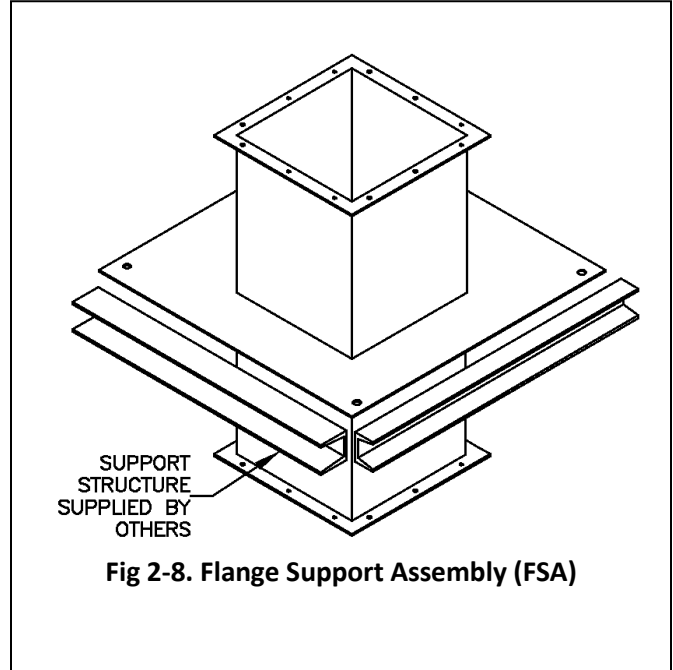

Fig 2-8. Flange Support Assembly (FSA)
2. Fasten / secure Plate Support to Structural Members. Do not install to combustible material. Ensure all four sides of the plate are supported. Design support member and fasteners in accordance with good engineering practices to suit each specific application. Jeremias assumes no responsibility for the design and/or modification of buildings or structures to accept the given loads. See Fig 2-8.